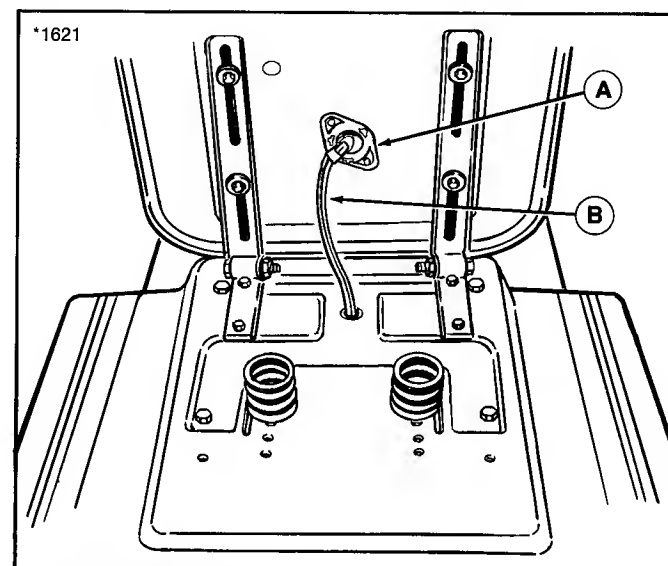

Figure 9. Seat Switch
Check the seat switch (A, figure 9) every fall and spring with the following three tests. Make sure the wiring harness (B) is securely plugged into the switch.